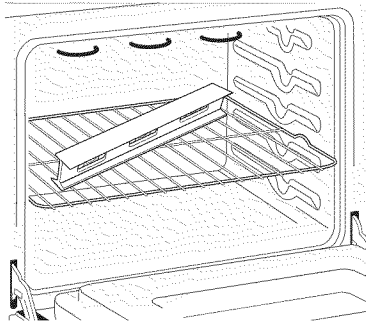

Figure 9
1. Install an oven rack in the center of the upper oven (see Figure 9).